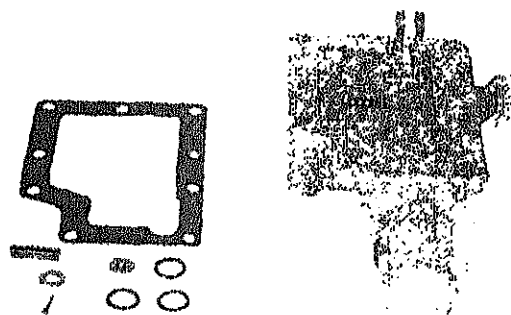

FIGURE 7-60.
d. Remove orifice and o-rings from control valve (see figure 7-60). Check to ensure orifice is open.